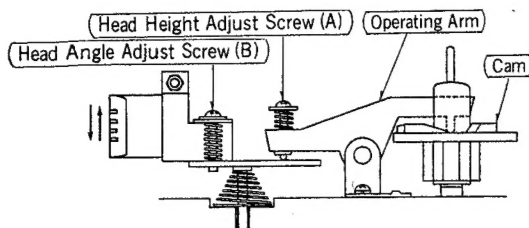

Fig. 3
3. Adjust the head angle adjust screw (B) shown in fig. 3 so that both output values become maximum simultaneously.
4. When turn the head height adjust screw (A) in fig. 3, confirm that the output varies as maximum \rightarrow minimum \rightarrow maximum as shown in fig. 14.
5. Set the adjust screw (A) at the minimum point.